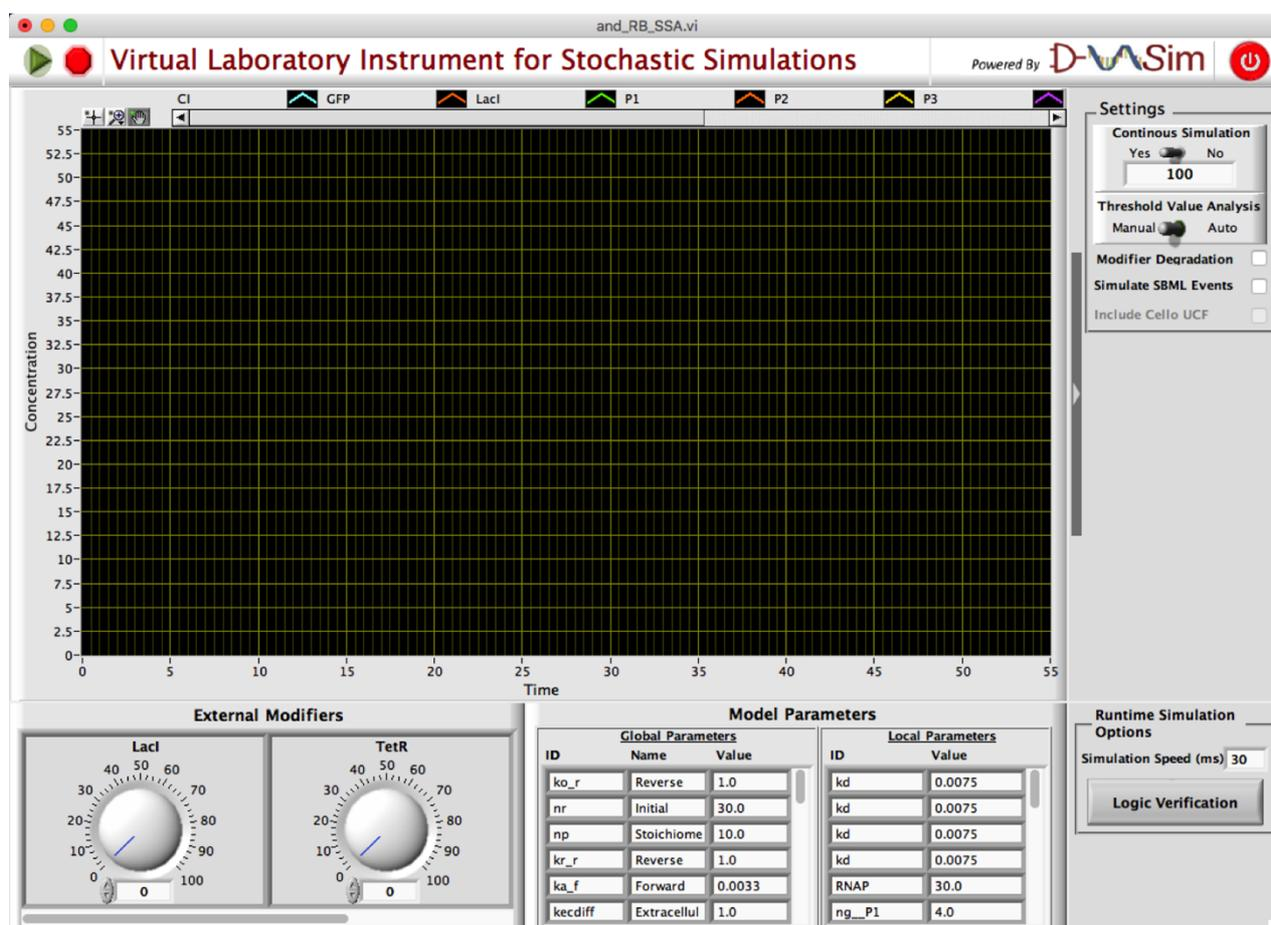

Figure 4. Virtual Instrument specifically for a genetic AND gate model.
Once the components of SBML model are analyzed, a virtual environment for the interactive simulation can be generated simply by clicking on any of the two options, **Generate SSA VI** or **Generate ODE VI** shown at the top right corner of a tool. Now click **Generate SSA VI** button to generate a virtual instrument (VI) for stochastic simulations of a genetic AND gate model. This will bring up a virtual instrument shown in Figure 4.
The virtual instrument (shown in Figure 4) looks similar to a physical instrument, which can be used to interact with the model by tuning the input concentrations with the control knobs and observing the effects graphically.
The control knobs for the input specie can be created by dropping down the **Options** menu and selecting **External Inputs** as shown in Figure 10(a). When **External Inputs** is selected, a pop-up window is appeared as shown in Figure 10(b). The user can drag the specie name from left-hand box to right-hand box in order to create its control knob. In Figure 10(b), LacI and TetR specie are selected whose control knobs are created as shown in Figure 4. These control knobs can only be created when the simulation is not running.